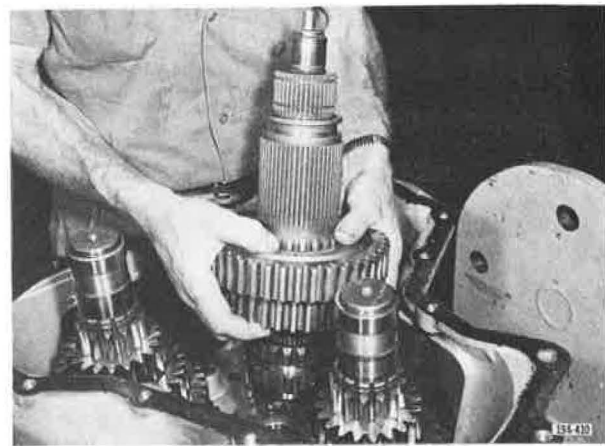

Figure 5-639. Installing Front Mainshaft Assembly
12. Carefully install mainshaft assembly as shown in Figure 5-639. Advance mainshaft all the way forward to completely seat the spigot bearing in the main drive pinion.